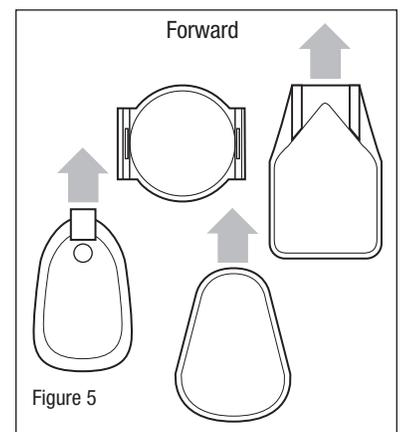

Figure 5
3. Press the transducer into place with a slight twisting motion to purge any trapped air from underneath. If you are using a transom-style transducer, make sure that the pointed end of the transducer points forward to the bow of the boat. Position angled-style transducers to transmit straight down and remain in parallel alignment with the keel (Figure 5).